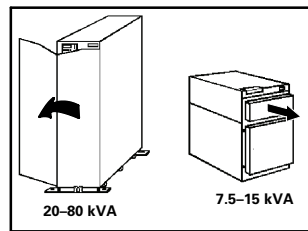

Figure 2. Open or Remove the UPS Front Cover
2. Open or remove the UPS front cover and locate the female, 9-pin, RS-232 port (labeled X100). See Figure 2.